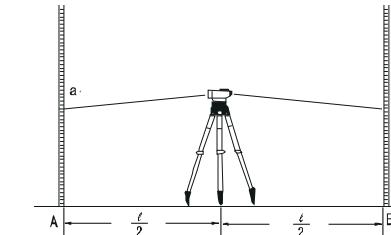

Fig.12
(1) Set the instrument halfway between A and B, staff A and B shall be 30~40M away, the readings are  $a_1, b_1$  (Fig.12)